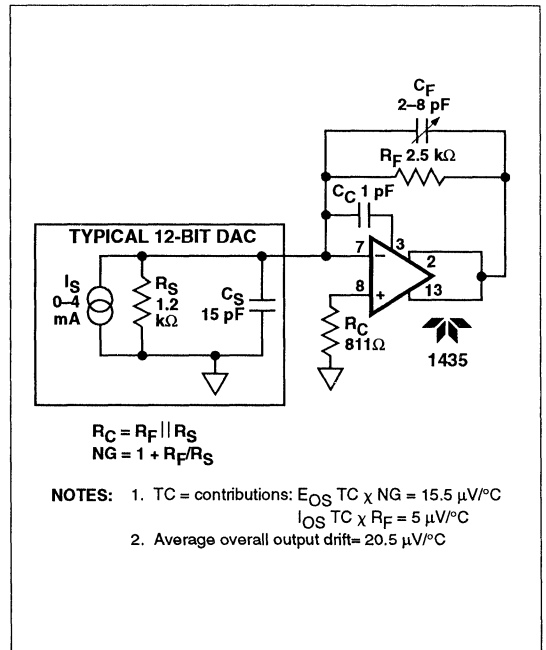

Figure 4. The 1435 as a Fast Current-to-Voltage Converter
The 1435 is an optimum choice for a current-to-voltage converter because of its excellent E_{OS} and I_{OS} temperature coefficients (TC). When used with a current output DAC the required noise gain of ≥ 2 is provided by using the output impedance of the DAC (see Figure 4). The initial input bias current of the 1435 is compensated by the addition of R_C , which is equal to the parallel combination of the feedback resistor and the input (DAC output) impedance. The typical I_{OS} TC of $2 \text{ nA}/^\circ\text{C}$ times the feedback resistor ($2.5 \text{ k}\Omega$) produces $5 \text{ }\mu\text{V}/^\circ\text{C}$ of output drift over temperature, and the typical E_{OS} TC of $5 \text{ }\mu\text{V}/^\circ\text{C}$ times a noise gain of 3.1 contributes only $15.5 \text{ }\mu\text{V}/^\circ\text{C}$ to the output drift.